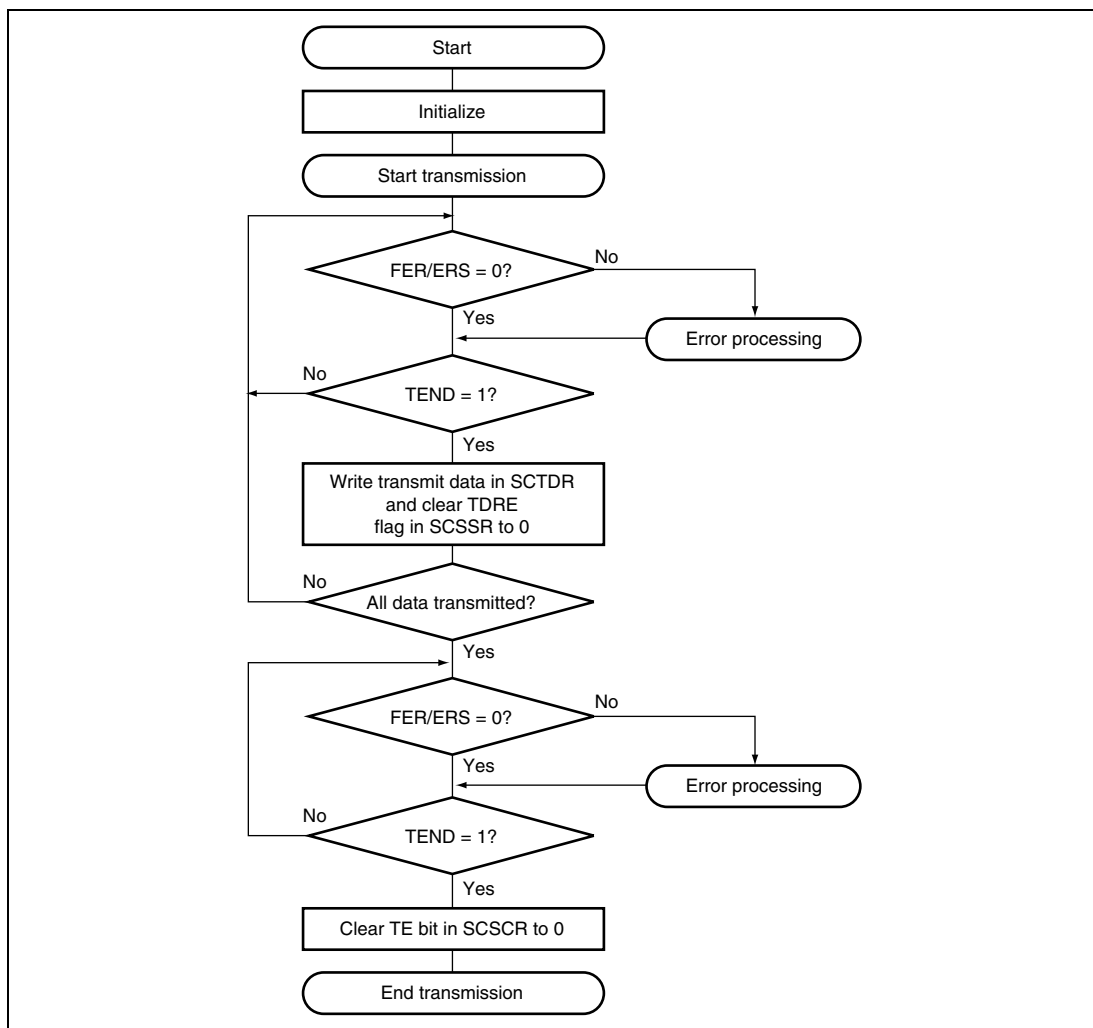

**Figure 15.6 Transmission Flowchart**
**Serial Data Transmission:** The processing procedures in the smart card mode differ from ordinary SCI processing because data is retransmitted when an error signal is sampled during a data transmission. An example of transmission processing flowchart is shown in figure 15.6.